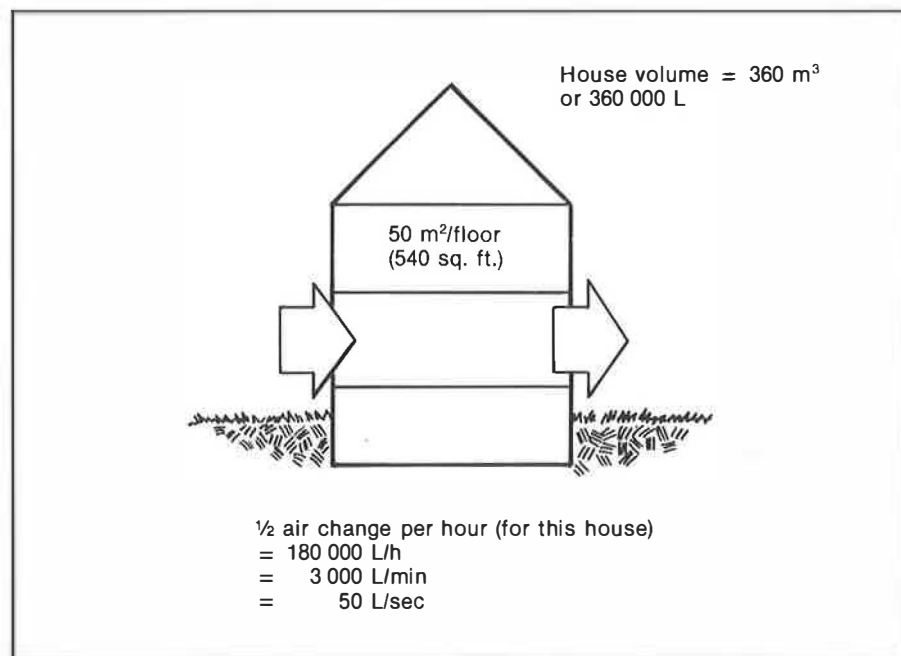

Fig. 4. *National Building Code* requirements.
- Provide increased mechanical ventilation. The 1985 National Building Code requires houses to have mechanical ventilation systems capable of providing at least half an air change per hour (fig. 4).*